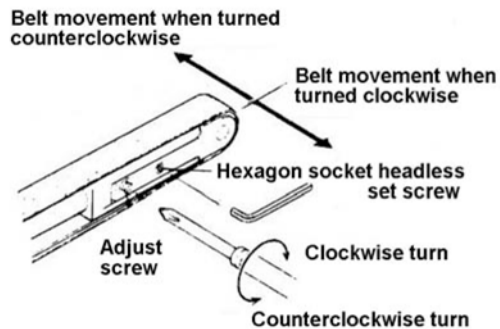

Figure 3
1. Loosen set screw with wrench. See Figure 3.